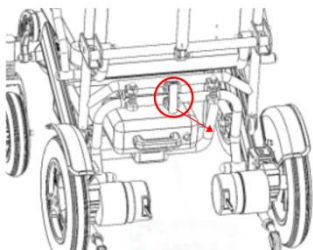

Figure 16.1
► Wheelchair folding: first find the folding buckle, pull the folding buckle outwards, then press the wheelchair down to the lowest point. (Figs16.1,16.2, 17and18).